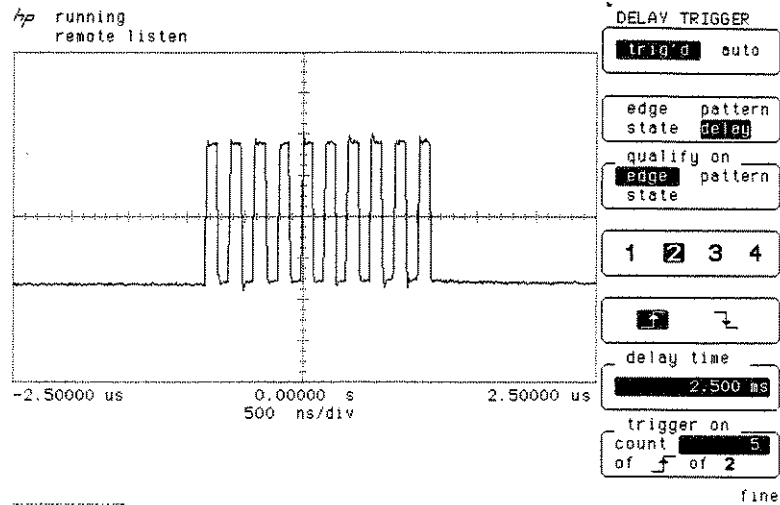

Figure 3-28. Ten Burst Pulse Triggered on Pulse 5
- Return to the trigger menu and set **trigger on count** to 5. It will be necessary to use the **FINE** key to set the **trigger on count**. This tells the Peak Power Analyzer to trigger on the 5th rising edge of the burst (see figure 3-28).